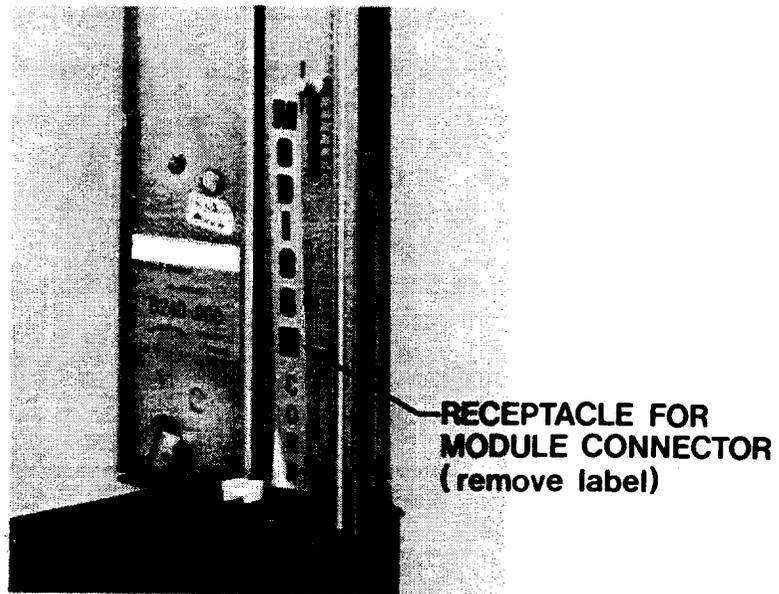

Figure 4-8. I/O Housing Cam Connector
5. Connectors at the lower left of each housing rotate to mate the housings. This cam connector is shown in Figure 4-8. Rotate the connector of the right-most housing clockwise 180° to engage the mating connectors. Use extreme caution when rotating the cam to avoid damage to the connector.